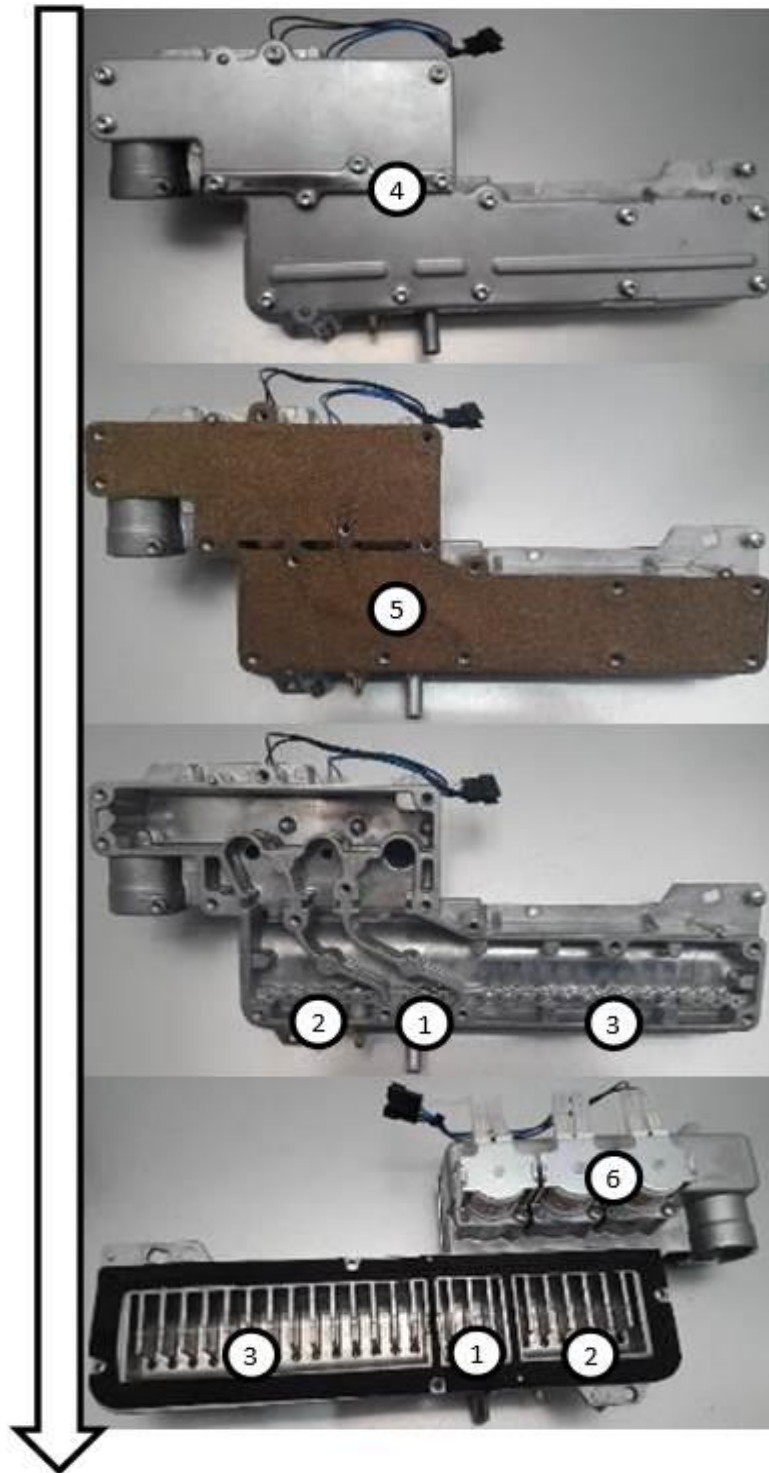

Figure 15 – Disassembling the manifold from the heat cell
1. The manifold is already separated from the appliance. If not, follow the steps in Figure 15.